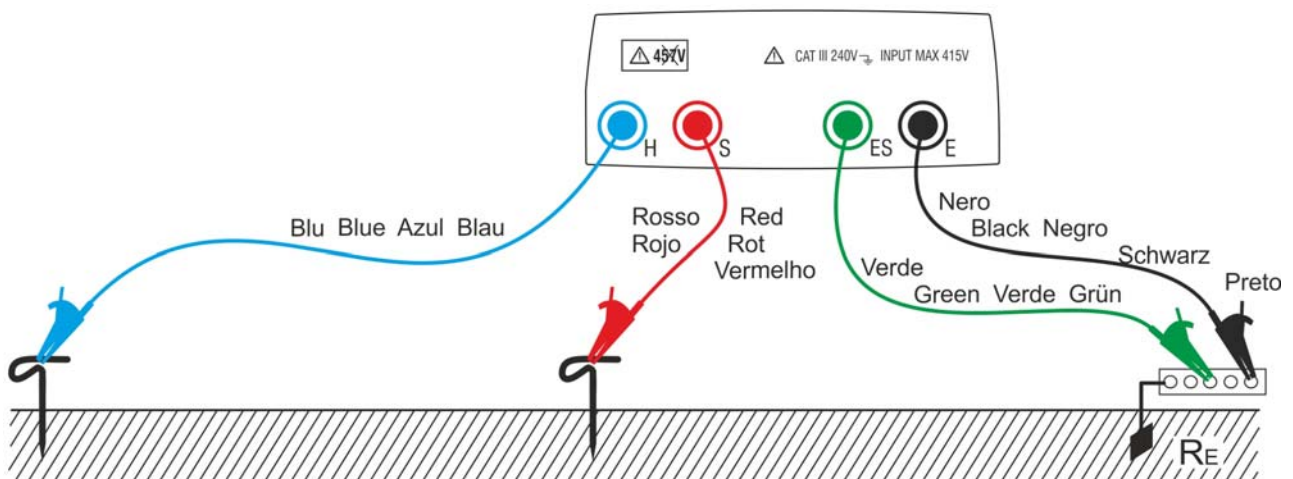

Fig. 3: Three-wire earth resistance measurement
7. Connect crocodiles to the auxiliary rods and to the installation under test (see Fig. 3)